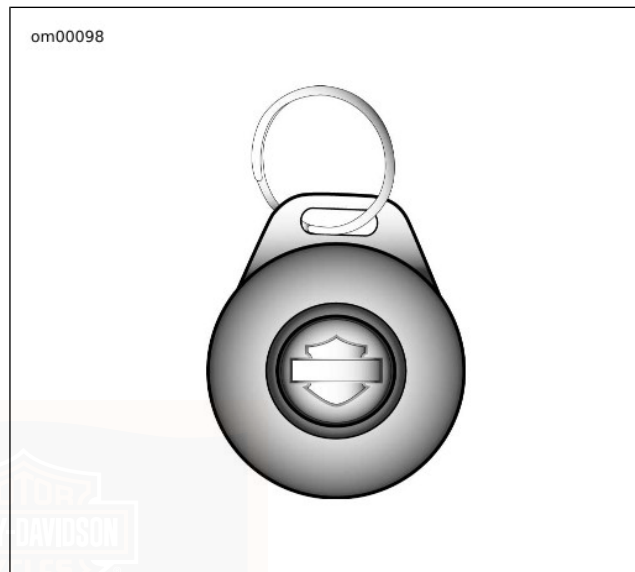

Figure 31. Key Fob
- **Remote-arming:** See Figure 31. Owners may enable security alarm and immobilization functions with a remote, personally carried transmitter. This transmitter is referred to as a key fob within this document.
See Figure 31. Hold down the key fob button until the system responds with two turn signal flashes and two chirps from optional siren. To assign a key fob to a motorcycle, refer to Table 25.
- **Remote disarming:** See Figure 31. Owners may disable security alarm and immobilization functions with a remote, personally carried transmitter. This transmitter is referred to as a key fob within this document.
See Figure 31. Quickly press the key fob button twice. The system will respond with one turn signal flash.